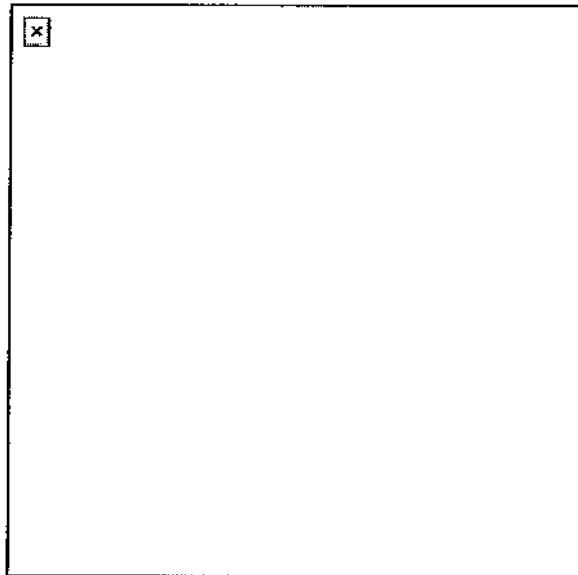

Figure 5. Camouflage of loop holes.
- (2) Camouflage the loop holes by knocking other holes in the wall to make it difficult for the enemy to know which hole the fire is coming from (Figure 5).